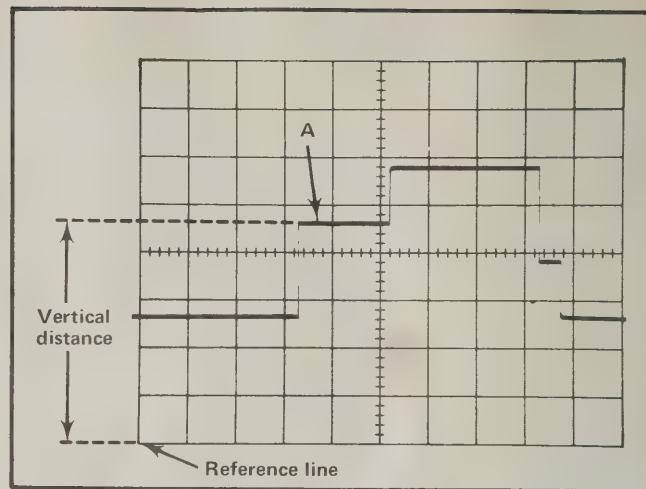

Fig. 3. Measuring instantaneous DC voltage with respect to a reference voltage.
9. Measure the distance in divisions between the reference line and the point on the waveform at which the DC level is to be measured. For example, in Fig. 3 the measurement is made between the reference line and point A.
Example. Assume that the vertical distance measured is 4.6 divisions (see Fig. 3), the waveform is above the reference line, VOLTS/DIV switch reading of 2.